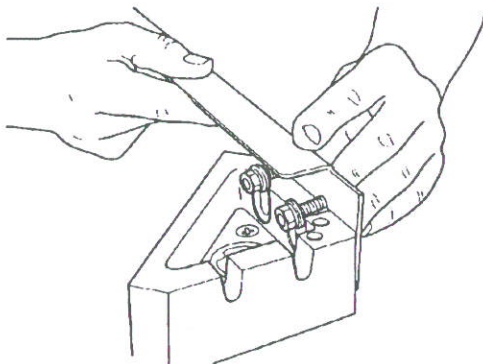
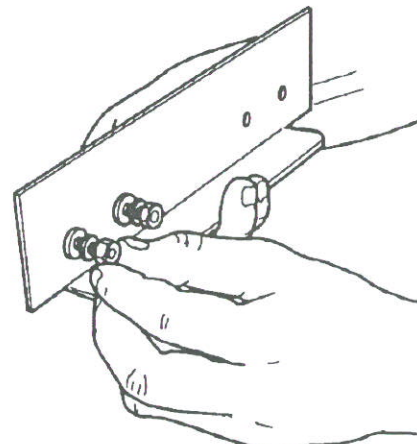

Fig.5
Fig.4
4. Install the short extension (6) by fitting two screws (7), flat washers (8), lock washers (9) and nuts (10) in the extension, as in Fig.4. Then lower the screws into the two slots in the near side of the casting, as shown in Fig.5. The washers (8 and 9) must be on the side of the nuts (10). Finger tighten.